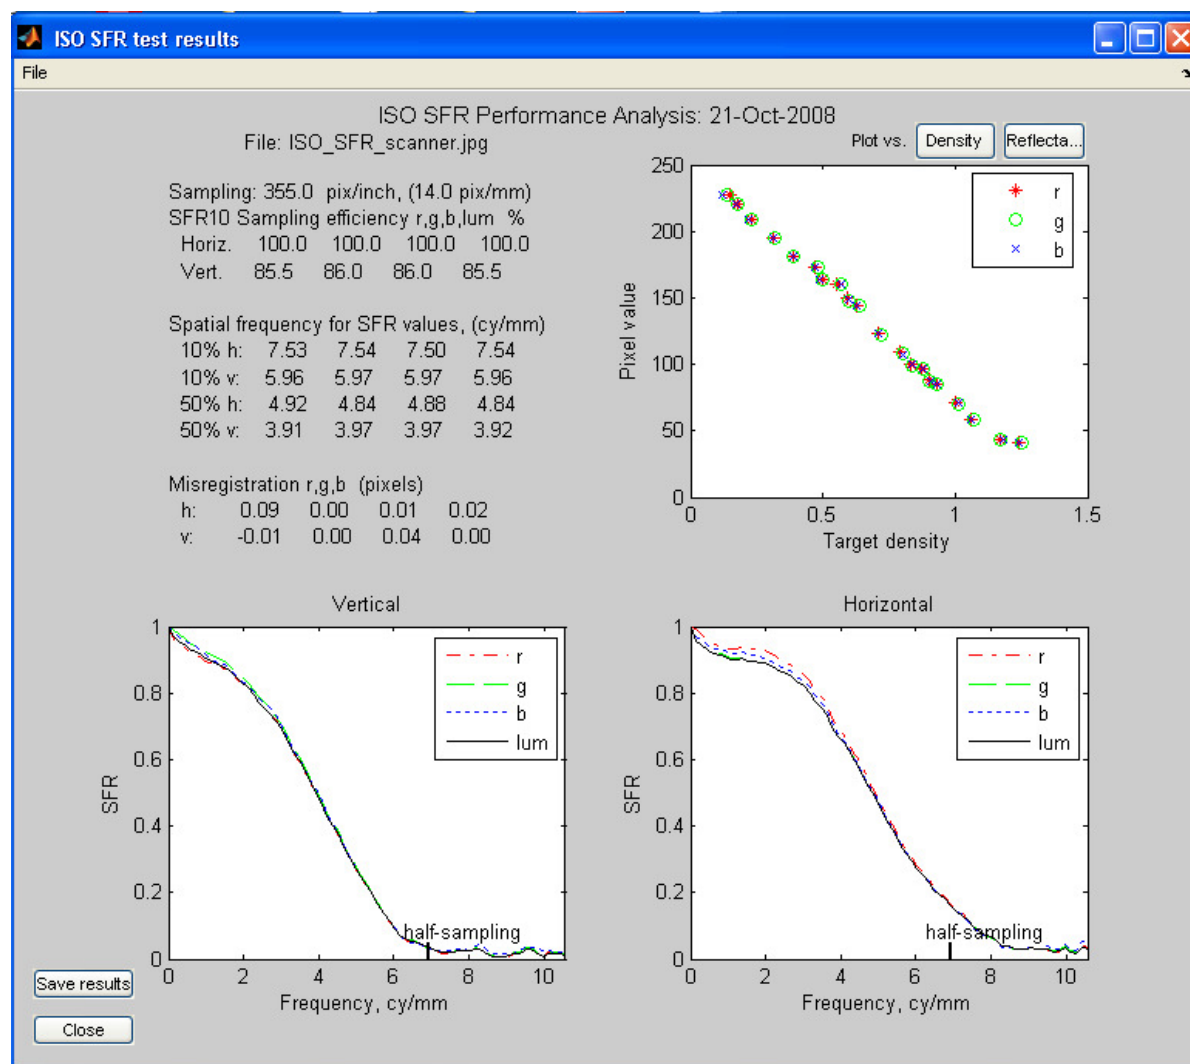

Figure 6: Results window
5. The results are then summarized in two windows, as shown in Fig 6.